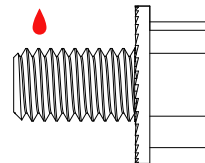

Figure 2
2. Apply Loctite® (9) onto new hex screws (1) provided as shown in Fig. 2 and tighten them back to the bottom of the cassette with 35 ft-lbs of torque.